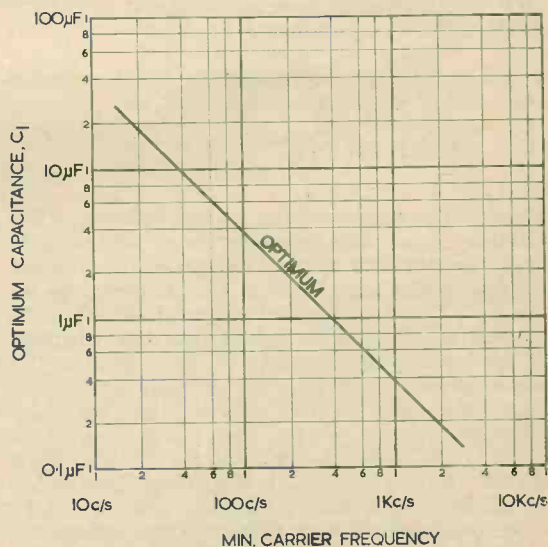

Fig. 3. Graph showing optimum values of capacitance against minimum carrier frequency
(1) The modulating current through the diodes must be proportional to the modulating voltage, which means that R_1 , R_2 must be much larger than the d.c. resistance of the diodes. A typical value for R_1 , R_2 is $47k\Omega$.
(2) The current driven through the diodes by the carrier signal must be much smaller than the modulating current. This imposes a limit of about $50mV$ (r.m.s.) on the carrier signal that can be used.
(3) The impedance of the capacitor C_1 must be small at the carrier frequency so that the modulation depth is independent of frequency, but the impedance of C_1 must be large at the modulating frequency so that the modulating current is not shunted away from the diodes. Obviously C_1 can only have one value at a time and so the carrier frequency must be much higher than the modulating frequency to satisfy this condition. A satisfactory figure would be a carrier frequency of at least 10 times the modulating frequency. There is also an optimum value of C_1 since a compromise must be reached, and the criterion for this is that the impedance of C_1 at the minimum carrier frequency is between 350 and 450Ω . Fig. 3 is a graph showing the optimum value of C_1 for various carrier frequencies.
(4) The carrier signal must have a low source impedance below about 180Ω in order to ensure that the variable loading produced by the change in diode resistance does not affect the carrier voltage.
(5) The output impedance of the modulator is fairly high, and the minimum output load that can be used is about $47k\Omega$.
(6) A large modulating signal is required for high modulation depth. For 100% modulation the peak to peak modulating voltage must equal V_B , which is about -12 volts.